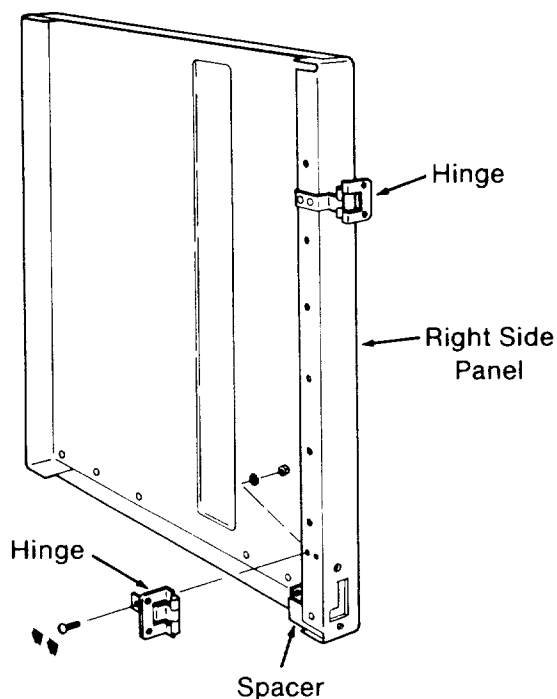

Fig. 51
16. Attach two *hinges* to the *right side panel* above the *spacer*, using four truss head bolts, lockwashers, and hex nuts. Tighten with a 7/16 inch wrench. (Figure 51)